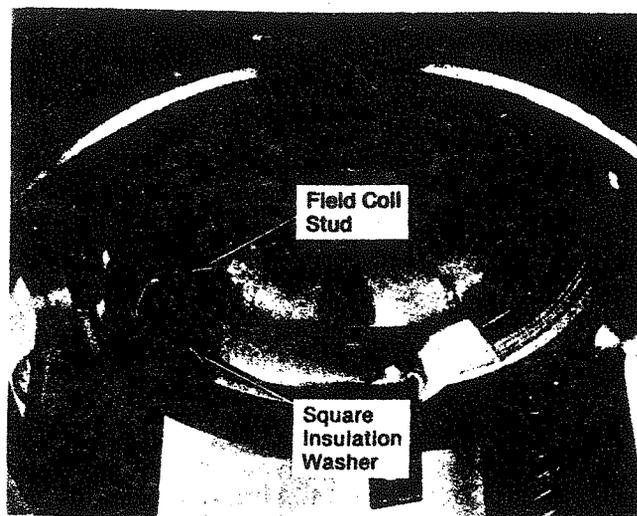

Figure 13
- 1.6 On field coils with welded field coil studs, place square insulation washer on field coil stud and pass stud through the field ring. See figure 13.